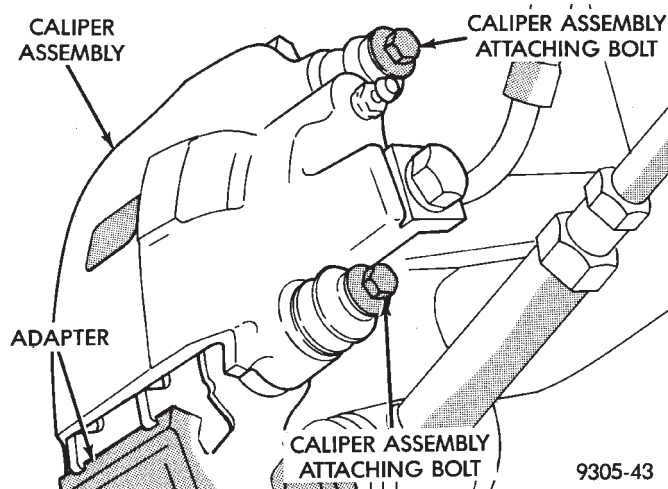

Fig. 58 Caliper Guide Pin Bolts
(1) Raise vehicle on jackstands or centered on a hoist. See Hoisting in the Lubrication and Maintenance section of this manual.
(2) Remove rear wheel and tire assemblies from vehicle.
(3) Remove the 2 caliper assembly to adapter guide pin bolts (Fig. 58).